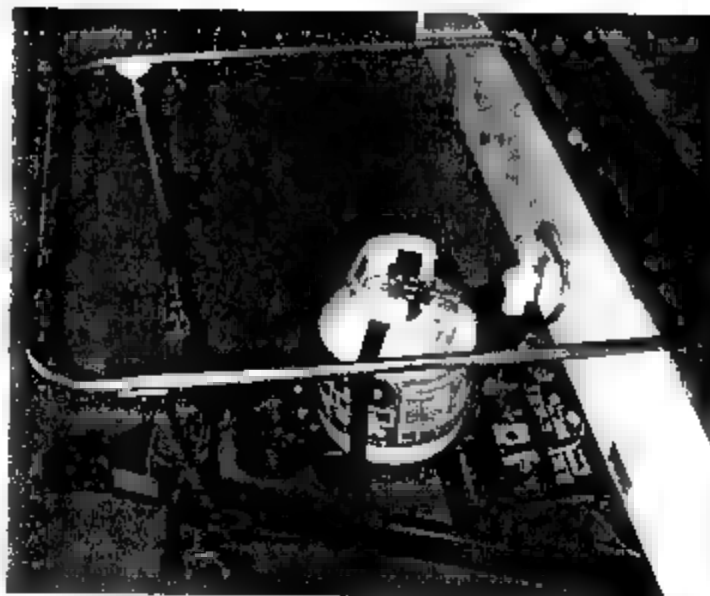

Fig. 8. Installing "U" bed support on front wall
5. Find bed supports under bed mats. Hang front "U" bed supports on front wall, placing legs in A-frame bracket holes closest to front wall. Hang rear scissor supports on rear wall, placing legs in bumper slots. See Fig. 8, 9 and 10.